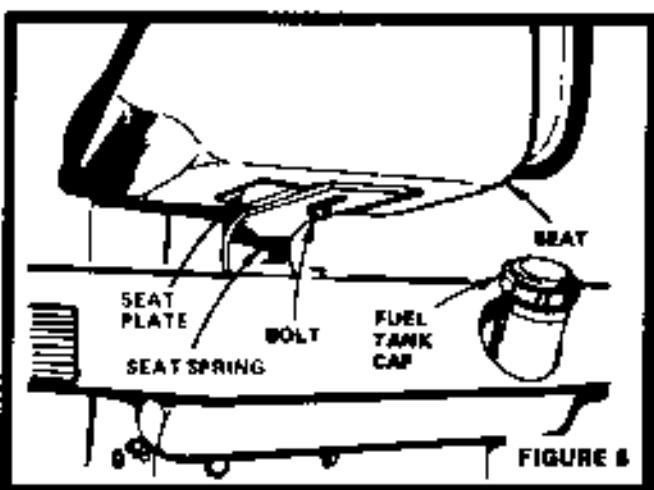

FIGURE 6
- Fill Fuel Tank (Fig. 6) with clean, fresh lead free, low lead or regular grade leaded gasoline. The use of lead free gasoline produces fewer combustion deposits which will result in longer valve life. Capacity is 3 1/2 gallons.
- Adjust Seat forward or backward to accommodate operator by loosening Bolt (Fig. 6). Retighten Bolt securely making sure Seat Plate has not twisted out of alignment with Seat Spring.